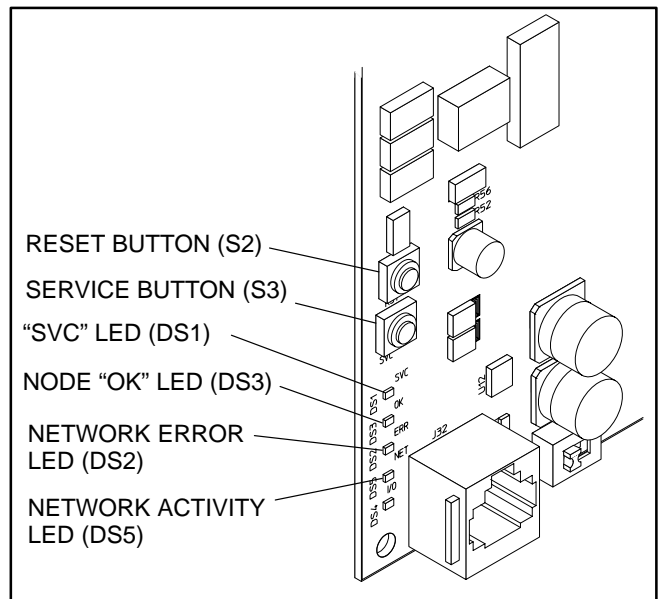

FIGURE 4. BUTTON AND LED LOCATIONS
13. Reconnect the generator starting battery cable(s). Verify that the “SVC” indicator blinks on the NCM (see Figure 4).
15. Turn the PCC selector switch to the “Manual” position to “wake up” the PCC 2100. Verify that the “OK” indicator blinks on the NCM (see Figure 4).
After the device has been installed, the *Node Address* can be verified by counting the number of pulses of the “OK” LED (DS3) (see Figure 4). Make sure each device has a unique node address.
4. Press and hold the *Service* button (S3) (see Figure 4) for approximately two seconds until the *Node “OK”* LED (DS3) begins flashing.